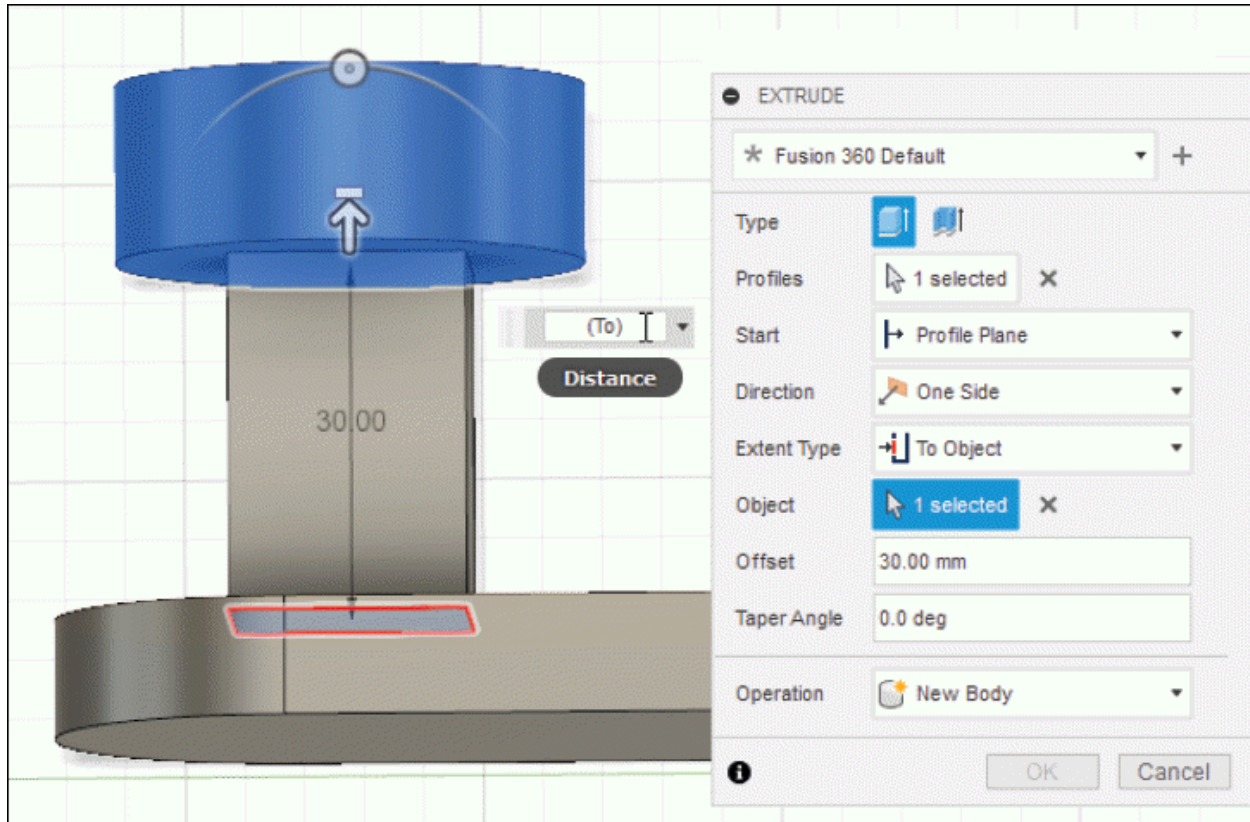

Figure-40. To Object extrude
- Select **To Object** option from **Extent Type** drop-down if you want to define a surface/face at which extrusion will end; refer to Figure-40. After selecting this option, click on the face or surface up to which extrusion is to be created.